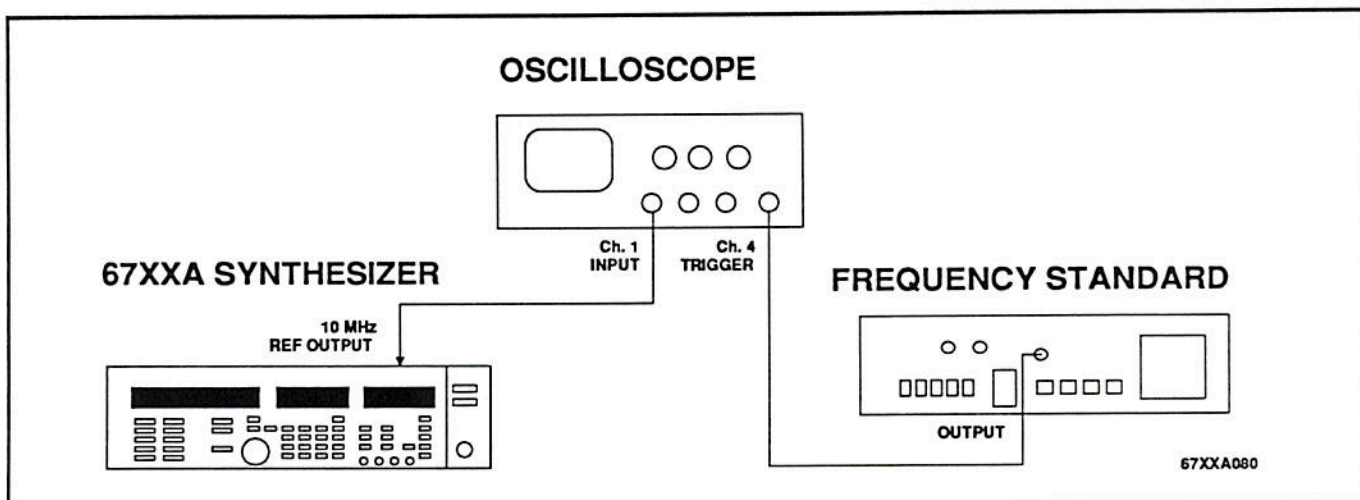

Figure 2-1. Equipment Setup for Internal Time Base Aging Rate Test
1. Connect the equipment as shown in Figure 2-1.